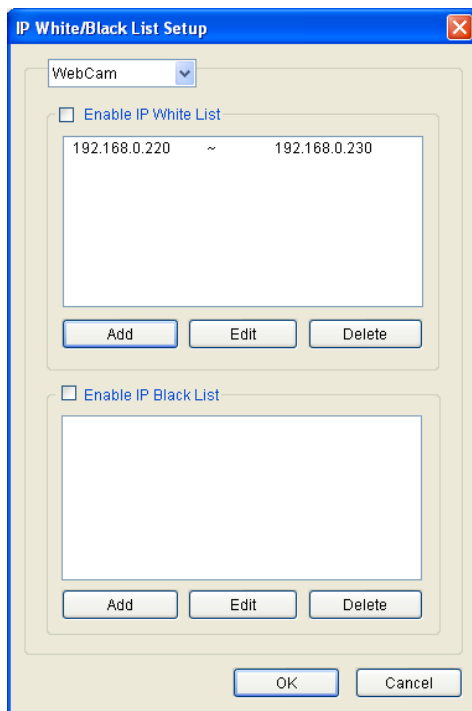

Figure 11-63
- **Block IP:** Prohibits the IP address from connecting to the WebCam server. To use the function, the **Enable IP Black List** option (Figure 11-63) must be selected first.